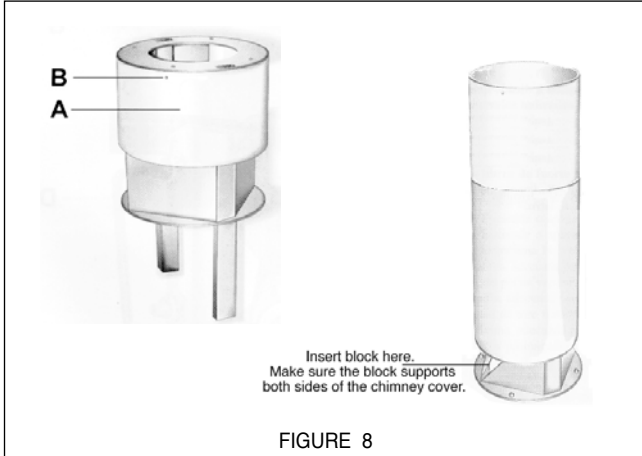

FIGURE 8
2. Before installing the canopy, the Upper and Lower Chimney Covers must be installed. The Upper Chimney Cover (**Item A in Figure 8**) attaches using two screws provided (**Item B in Figure 8**). Install the Upper Chimney Cover. The Lower Chimney Cover rests on the top of the Canopy once it is installed. Install the Lower Chimney Cover. Use the wood block to hold the Lower Chimney while installing the canopy by inserting the wood block between the inside of the support and the Lower Chimney Cover.